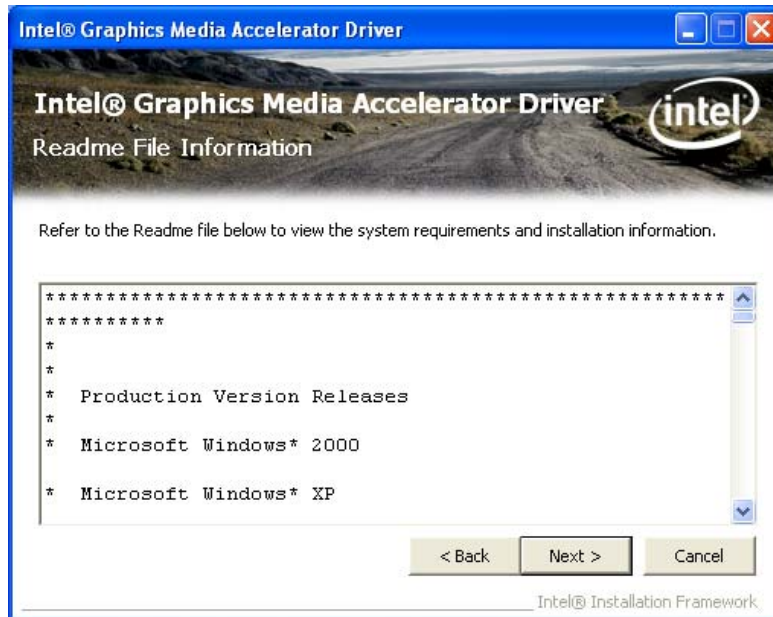

Figure 6-11: VGA Driver Readme File
Step 12: The Readme File in **Figure 6-11** appears.